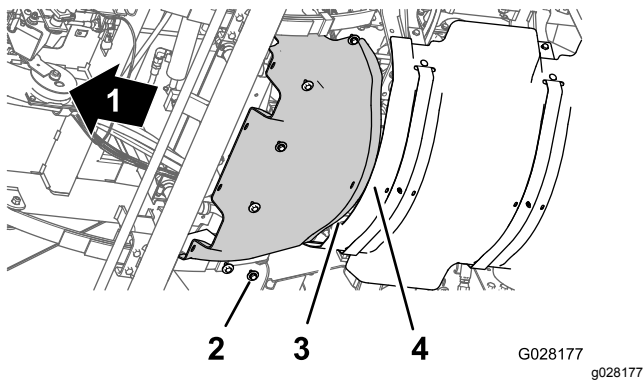

Figure 60
1. Align the rear flange of the forward heat shield over the forward flange of the rear heat shield (Figure 60).
2. Align the holes in the forward heat shield with the threaded holes in the chassis (Figure 60).
3. Assemble the forward heat shield to the machine with the 6 hex-head bolts and 6 washers (Figure 60) that you removed in step 3 of Removing the Forward Heat Shield (page 50).